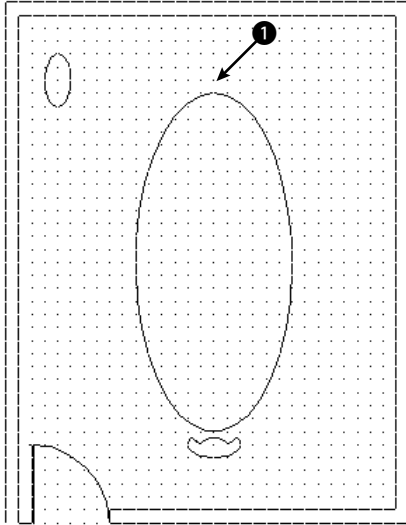

Figure 9-8: The conference room.
2. Save the file as *ab09-05.dwg* in your AutoCAD Bible folder. This drawing shows a conference room, as shown in Figure 9-8.